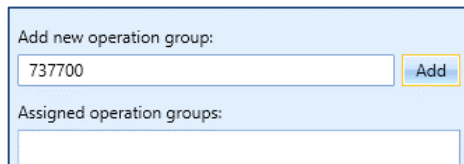

Figure 28. Create Annualization Wizard – Add New Operation Group Text Box
4. In the *Add new operation group* text box, enter "737700" and click *Add* (Figure 28).